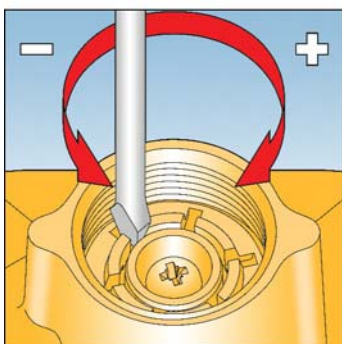

Fig. 6
4. Turn anticlockwise (-) to reduce loading on regulator spring to minimum. See Fig. 6 (If no safety devices are fitted go to instruction 12).
6. Insert a flat bladed screwdriver into one of the partial slots on the OPSS spring holder. See Fig. 6.
15. Slowly turn OPSS spring holder anticlockwise (-) until OPSS device trips off. See Fig. 6.